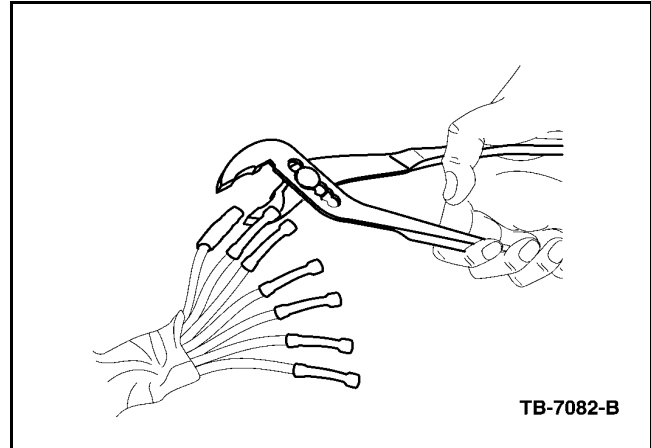

Figure 4 - Article 05-16-12
- Use a shielded, flameless heat gun to heat the repair area until the tubing shrinks and adhesive flows out of both ends of the shrink tubing. While the adhesive is still hot, use pliers to pinch the ends of the heat shrink tubing closed to form a moisture proof seal (Figure 4).